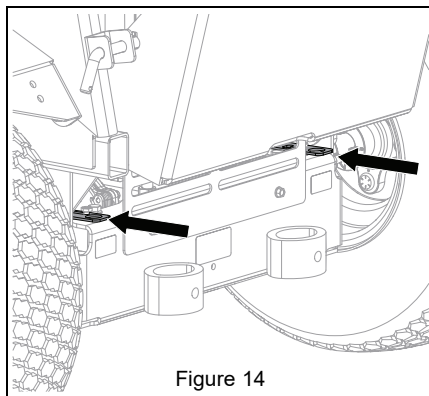

Figure 14
7. Push bypass levers into operating position. See Figure 14.